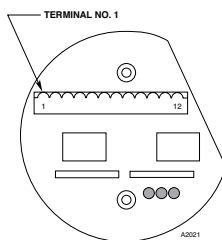
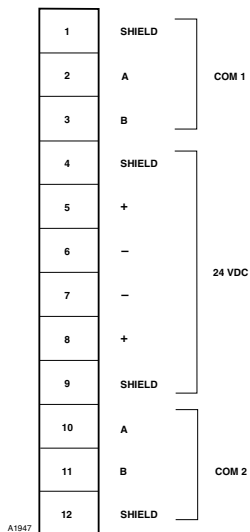

Figure 3-2—Network Extender Wiring Terminal Location
Figure 3-3—Network Extender Wiring Terminal Identification
2. Connect 24 vdc power lead wires and communication network cable to the terminal block. (See Figure 3-2 for terminal location and Figure 3-3 for terminal identification).